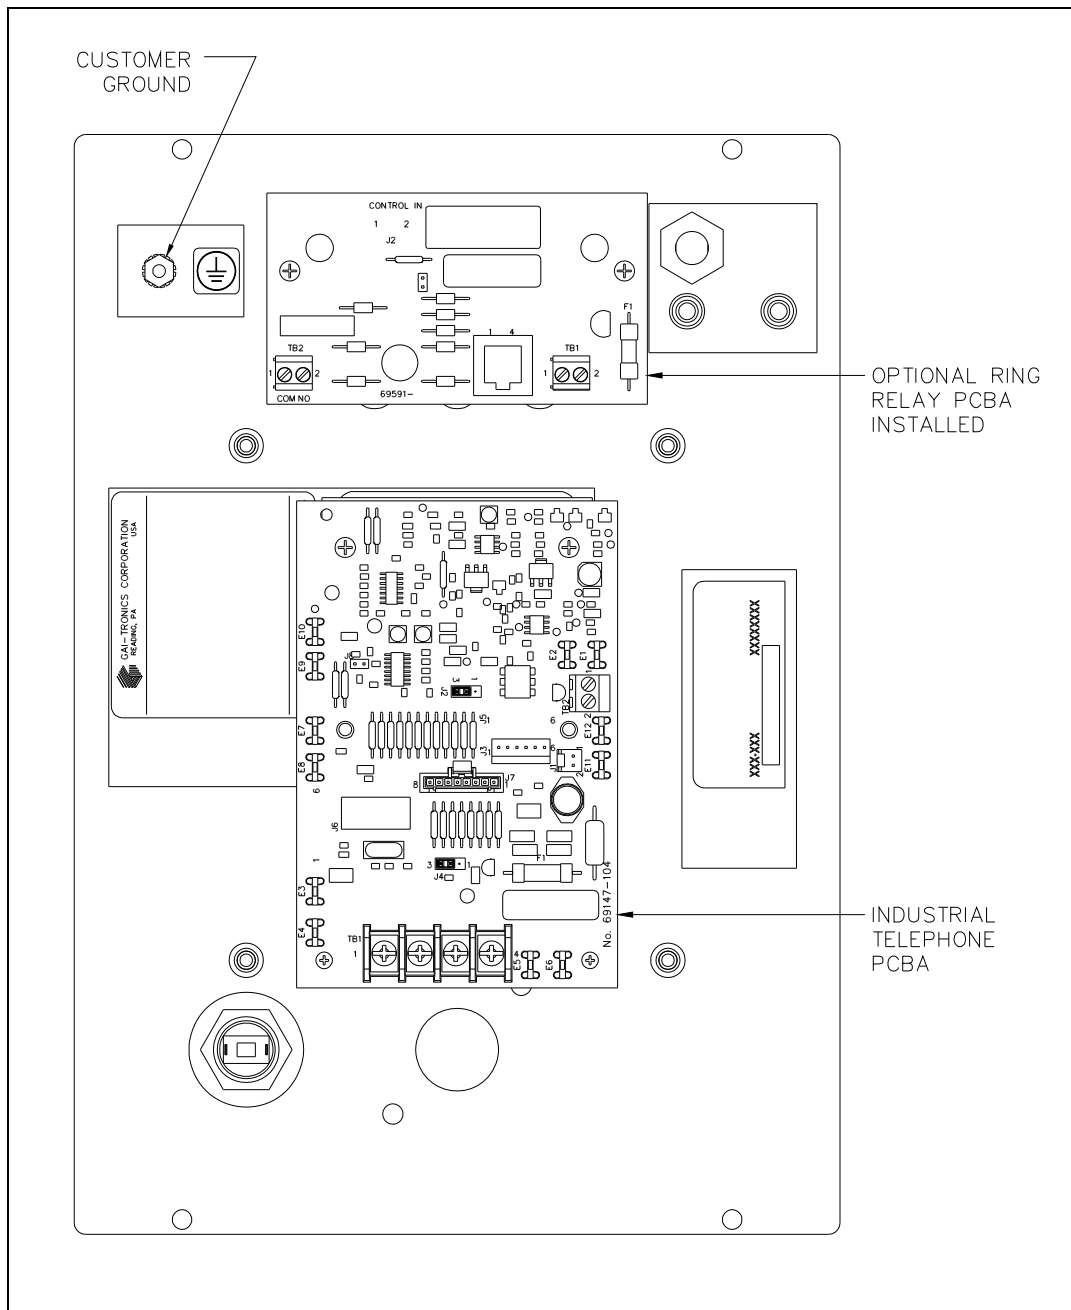
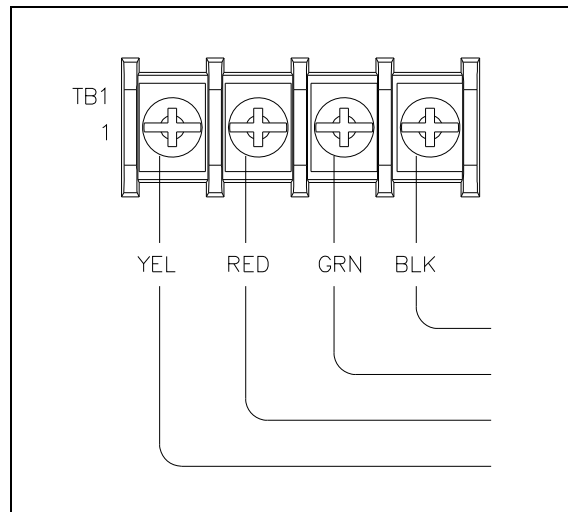

Figure 3. Interior of the Front Panel
Figure 4. TB1 Terminal Block on Industrial Telephone PCBA
2. Connect the incoming subscriber line (red and green) or line suppressor to the Main PCBA terminal strip. See Figure 3 and Figure 4.
When installed, the Ring Relay PCBA is connected to the Industrial Telephone PCBA via the USOC RJ11C modular connector cord. This allows the telephone input wiring to be connected directly to the Ring Relay PCBA. The Ring Relay PCBA is installed on the back of the front panel. See Figure 3 for mounting and steps 1 through 3 in the “Ring Relay Wiring” section.
1. Install the two standoffs (provided) onto the back of the panel as shown in Figure 3.